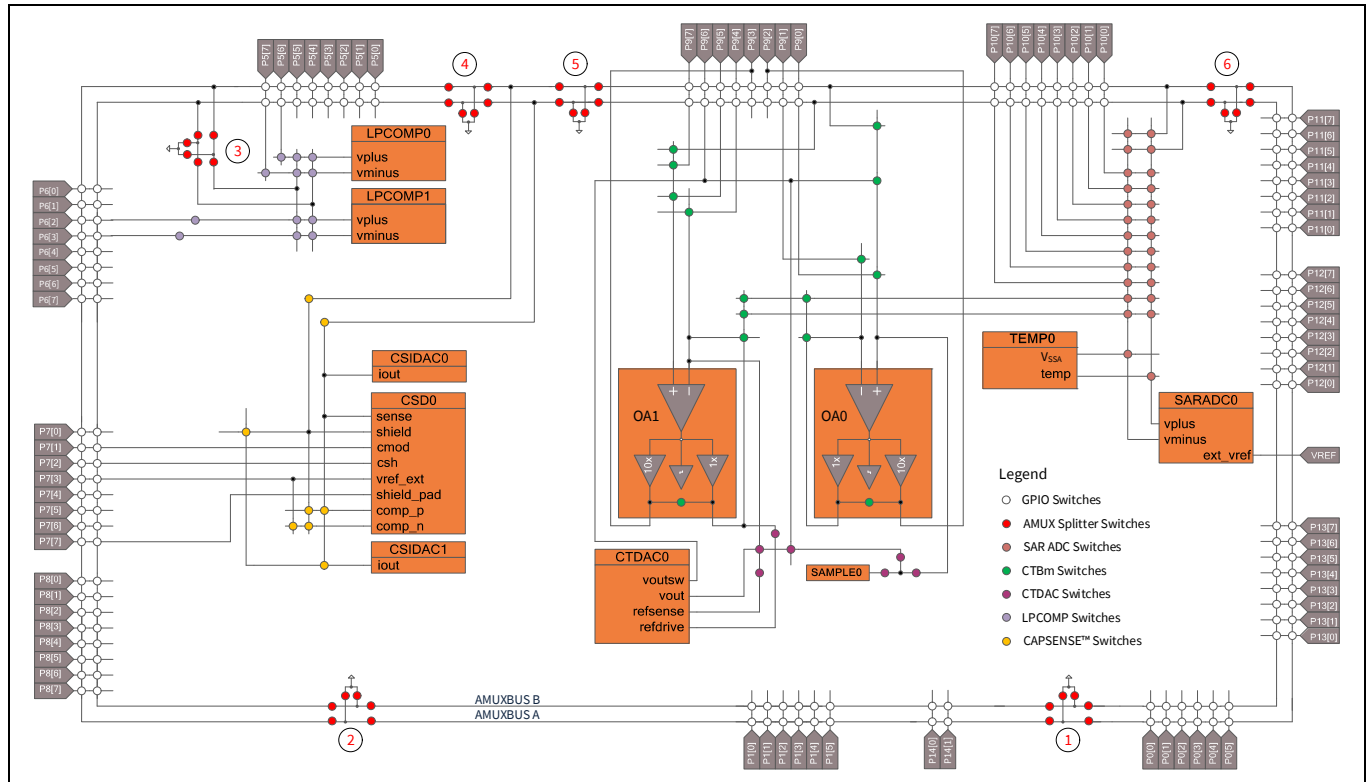

Figure 41-1. PSoC™ 6 MCU analog routing diagram
Figure 41-1 shows the analog routing available in PSoC™ 6 MCUs.
- The analog features and GPIOs shown in **Figure 41-1** may not be available in all PSoC™ 6 MCUs. See the respective device datasheets for available analog features and ports in a device.
- Certain analog blocks such as CAPSENSE™ and LPCOMP have additional internal routing, which is not shown in **Figure 41-1**. See the respective chapters of these blocks in this document for details.
AMUXBUS A and AMUXBUS B are system-wide analog buses that can connect to almost all analog blocks and some GPIOs in the PSoC™ 6 MCU. However, the PSoC™ 6 MCU has only two of these buses. Each AMUXBUS can be split into multiple segments using 5 switches controlled by writing into the HSIOM_AMUX_SPLIT_CTL registers. An example use case would be to disconnect the AMUX switches 2 and 5 (see Figure 41-1) when using CAPSENSE™ with touch pads connected to Port 7 and Port 8. This leaves other AMUX bus segments free for use by other analog blocks. For more information on AMUXBUS connections, see the “I/O system” on page 273.